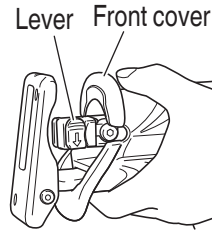

Fig. 1
- (1) Turn on and off the switching trigger several times so that the lever can jump out of the front cover completely. Thereafter, turn off the switch and unplug the power cord. (Fig. 1)
- Do not remove the front cover (refer to Fig. 1 on page 20). Be sure to hold the body from the top of the front cover.